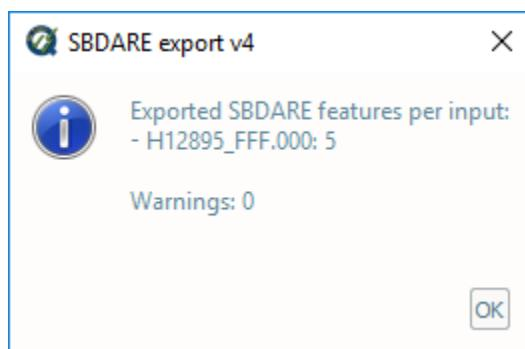

Fig. 2.49: SBDARE exports output message.
- After computing, the output window opens automatically, and the results are shown. Any errors that occur while processing will appear in the output message. (Fig. 2.49):